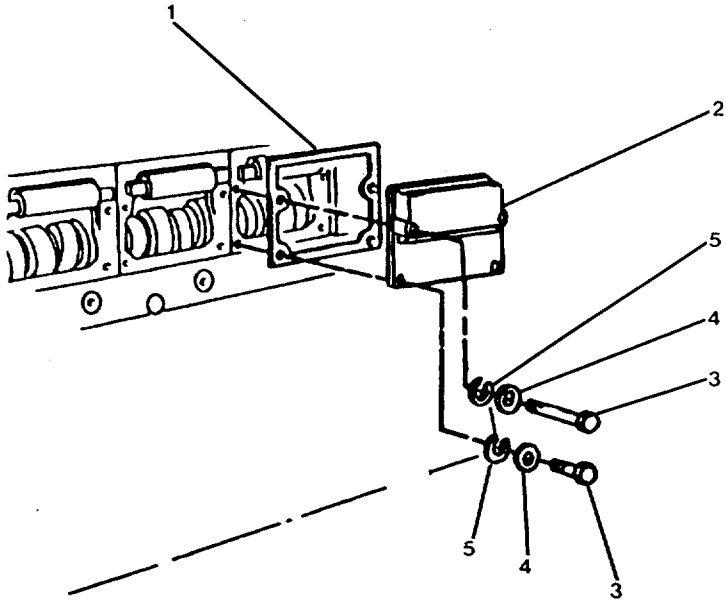
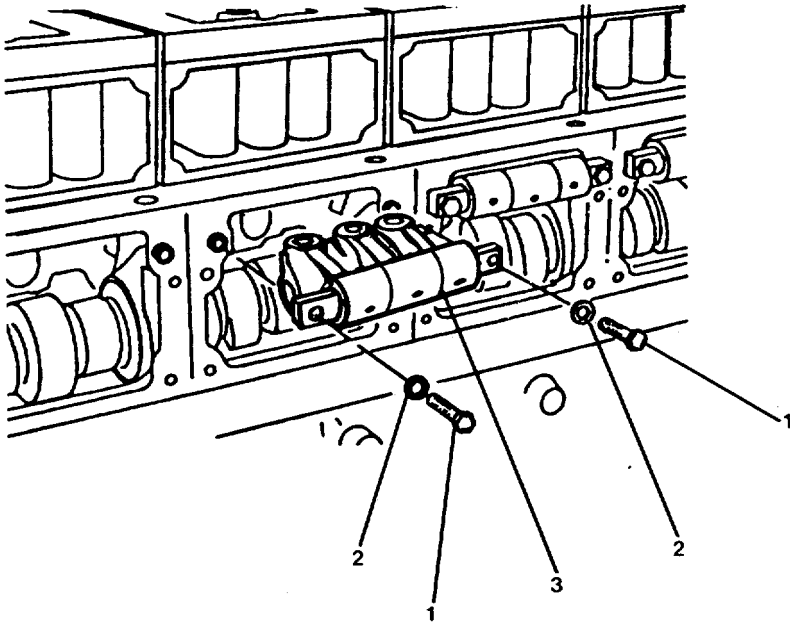

FIGURE 4-37. Cam Follower Cover Removal/Installation.
FIGURE 4-38. Cam Follower Removal/Installation.
- b. Remove capscrews (3, FIG. 4-37), lockwashers (5), washers (4), cam follower covers (2), and gaskets (1). Discard gasket.
- c. Remove capscrews (1, FIG. 4-38) and lockwashers (2) securing the cam followers (3) to the cylinder block.
- d. Remove cam follower assembly (3, FIG. 4-38).
- a. Lubricate camshaft and cam follower assemblies (3, FIG. 4-38) with clean engine lube oil.
- b. Position the cam follower assemblies (3, FIG. 4-38) over the ring dowels in the cylinder block. Install washers (2) and capscrews (1) finger tight. Ensure the shaft fits correctly on both ring dowels.
- c. Torque the capscrew (1) alternately and evenly to 29 to 31 ft-lb (39 to 42 Nm).
- d. Install gasket(s) (1, FIG. 4-37) and cam follower cover(s) (2).
- e. Install washers (4), lockwashers (5) and capscrews (3). Torque to 30 ft-lb (40 Nm).